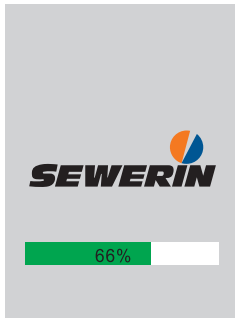

Fig. 10: Start image
1. Press the On/Off key until the start image (fig. 10) appears.